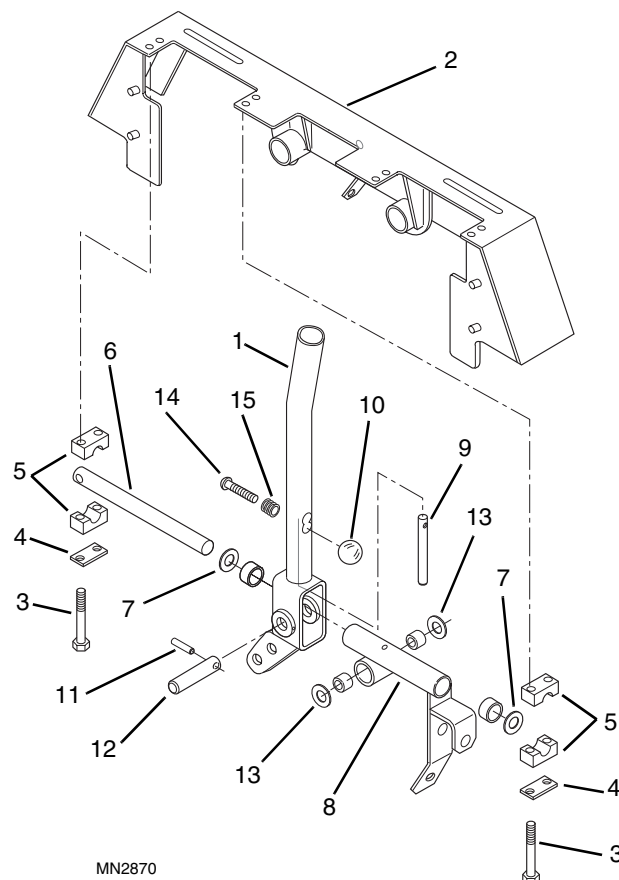

Figure 7-49 Travel/Steering Lever Disassembly
4. Remove the right travel/steering lever (Fig. 7-49, 1) from the crossmember (2) by removing capscrews (3), clamp covers (4), and half clamps (5). Remove the lever. Remove pin (6) and shims (7).
5. Remove 4-way pivot (Fig. 7-49, 8) from lever (1) by first lifting up on the lever locking pin (9) using the knob (10). Remove the roll pin (11) and tap out the pivot pin (12). Remove shims (13) from the 4-way pivot lever (8).
6. Remove the lever locking pin (Fig. 7-49, 9) from the lever (1) by removing slotted capscrew (14), spring (15), and knob (10). The locking pin (9) will drop out of the bottom of the travel/steering lever.